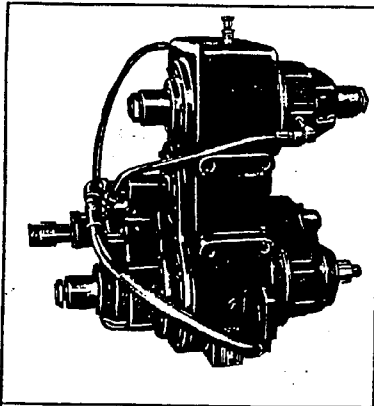
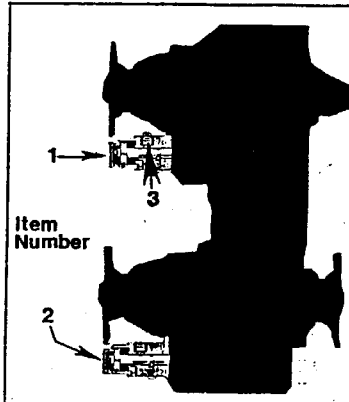
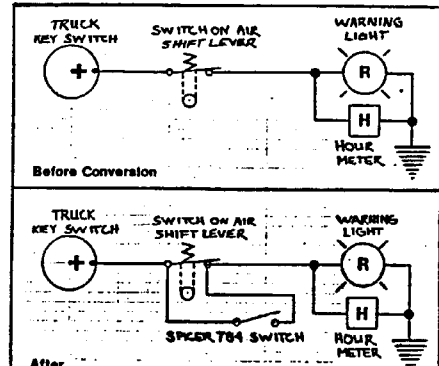

Fig. 1 Spicer 784
Fig. 2 Switch Location
Fig. 3 Schematic
For this reason, Schwing America is strongly advising that the following modification be made. This affects ONLY units with Spicer 784 transfer cases. (See Fig. 1).
There are two airshifters on the 784. (See Fig. 2). The bottom shifter (item #2) engages the driveline to the rear end of the truck, while the top shifter (item #1) engages the hydraulic pumps. We are concerned ONLY with the top shifter on this modification. (If the bottom shifter fails, you will know because the unit will not move). There is a normally open switch existing on the top airshifter on the 784, (item #3) and this modification involves nothing more than wiring in the switch before the cab warning light. (See schematic-Fig. 3).
- 5C (See Fig. 1) Before piston 1 reaches its bottom dead center (B.D.C.) position, close the ballcock (Fig. 2, item 2) on ROCK VALVE machines, or both throttle valves (Fig. 3), items 3 & 4) on GATE VALVE machines.